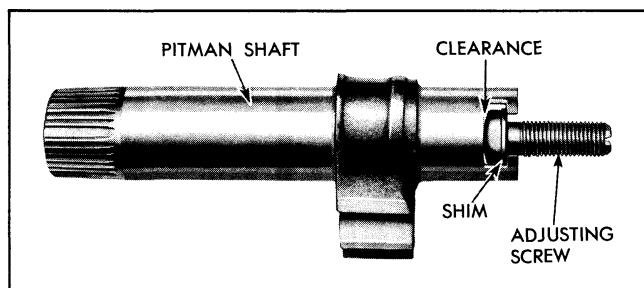

Fig. 9-41 Pitman Shaft and Adjusting Screw
6. Install pitman shaft adjusting screw and selective shim in pitman shaft (Fig. 9-41).